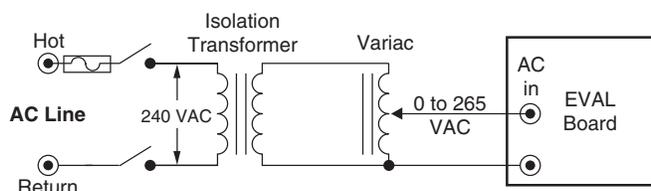

Figure 1. Variable Isolated AC Supply
2. Connect an isolation transformer to the input of a variable autotransformer, such as a Variac. For testing universal input conditions use a 0 to 240 Volt output autotransformer with a 1:1 isolation transformer as shown in Figure 1.
Using an adjustable AC source similar to the source described in Test Procedure step 2 (Figure 1) allows measurement of the Evaluation Board’s performance across the full input voltage range.